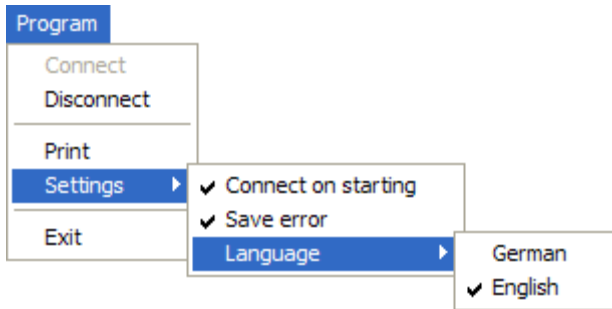

Fig. 13: Menu bar
1. – “Program” menu call. Continue Fig. 13.